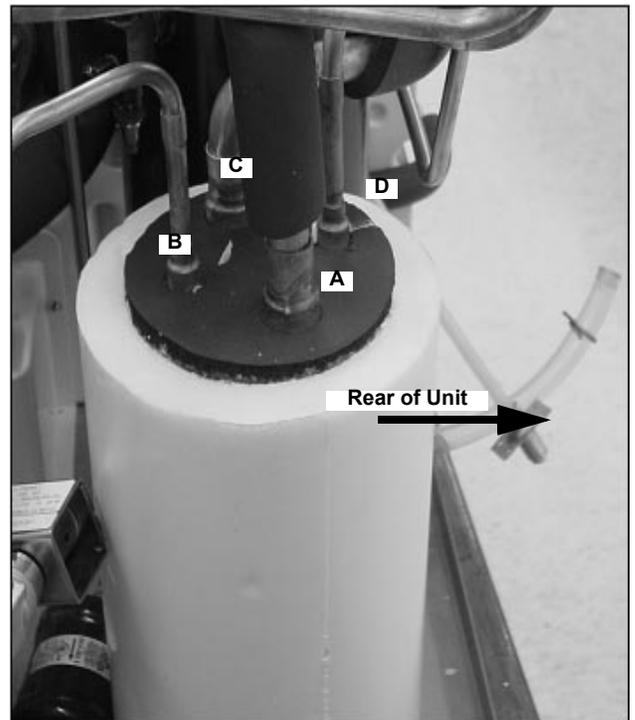

Figure 30. Right Side
30. Place the foamed accumulator assembly orienting the suction line outlet, (A) to the right end of the unit (Figure 30).